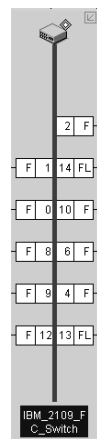

Figure 110. Port assignments
- Expand multi-port devices to show the port assignments. Right-click the device and select **Ports** from the pop-up menu to view the ports. See Figure 110.